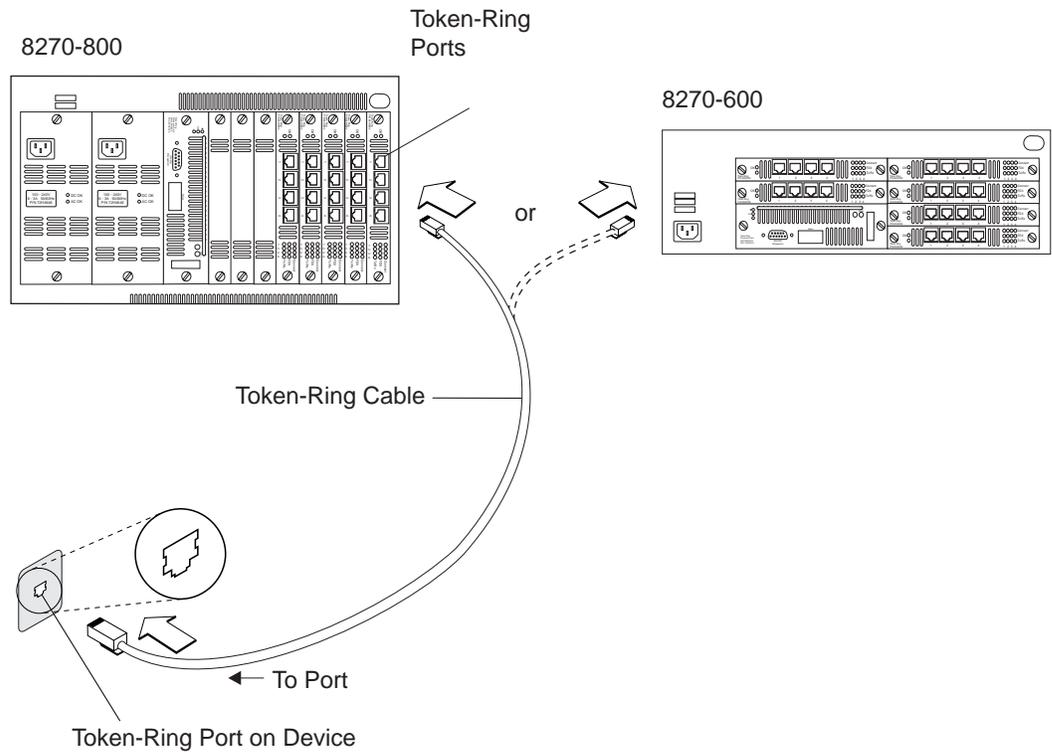

Figure 2-13. Connecting Devices to Token-Ring Ports
- Step 1.** Using the IBM 8270 Cabling Chart provided by your network administrator as a guide, connect the cables between the 8270 and other devices as illustrated in Figure 2-13 on page 2-22. It illustrates an RJ-45 connector on each end. Depending on the cable type you use, the device end of the cable might also have a 9-pin, D-shell or 150-ohm data connector.